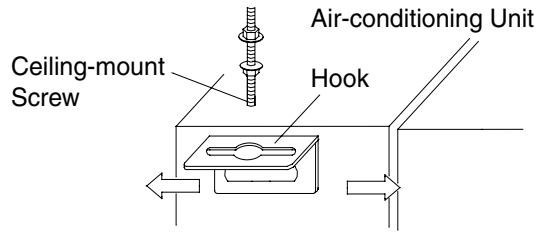

Fig.9.2
- (2) Install the hook onto the indoor unit as Fig. 9.2 shows.